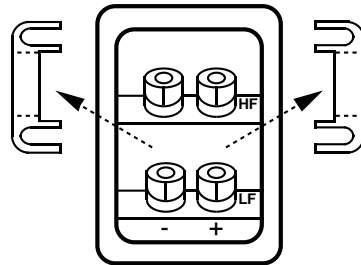

Fig. 8 – Removal of Strapping Bar
1. The external "strapping bars" which normally connect the GHE's HF and LF terminals **MUST BE REMOVED BEFORE BI-WIRING CONNECTIONS ARE MADE** (See Fig 8).